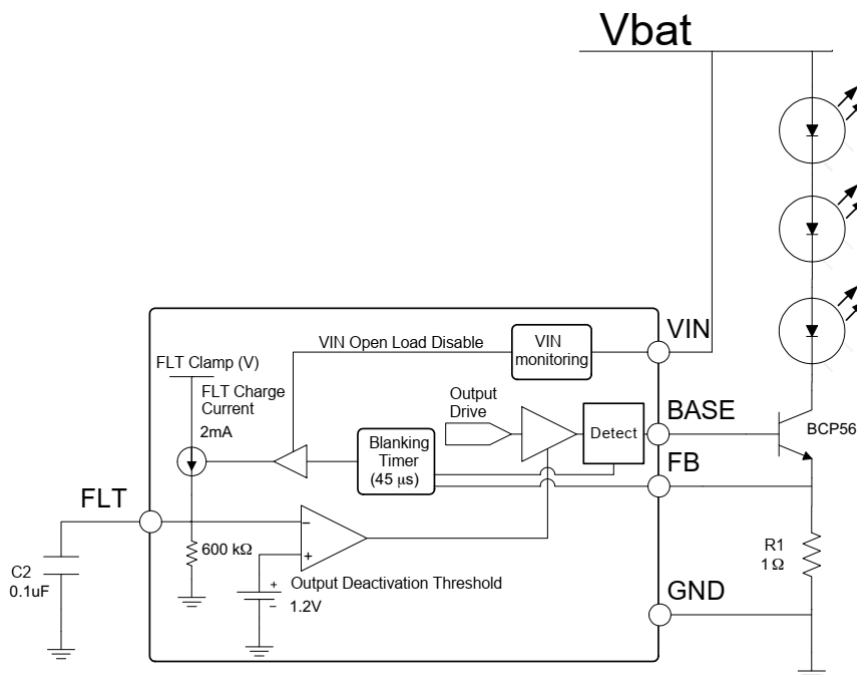

Figure 2. Open Load Detection
The timing for open load detection is programmed using the FLT pin. The PT16976 controller regulates a 152 mV reference point (Figure 2 on the feedback pin (FB)). When the voltage decreases (half of the FB Regulation Voltage) or the base current reaches the internal 22 mA (typ) limit for 45 μs , the timer associated with the FLT pin starts by charging the capacitor with a 2 mA current source. When the voltage on FLT exceeds the output Deactivation Threshold (typ 1.2 V), the BASE pin is pulled low and is held low by an internal pulldown resistor.